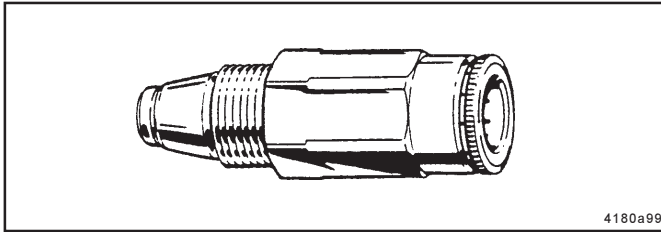

Fig. 3 - Check valve, push-in type
- Each outlet used must be equipped with an appropriate check valve (see page 4, Fig.3.).